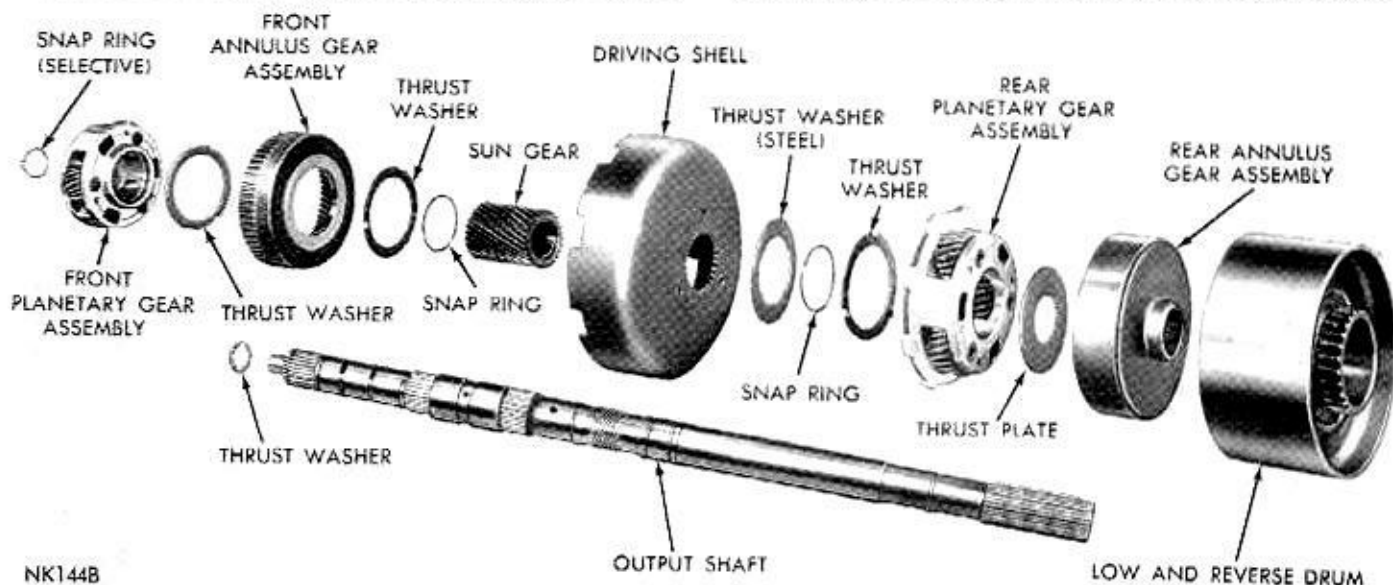

Fig. 72—Planetary Gear Train and Output Shaft Disassembled (A-727)
output shaft (Fig. 72).
(2) Remove selective snap ring from forward end of output shaft, then slide front planetary assembly off the shaft.
(3) Slide front annulus gear off planetary gear set (Fig. 72). Remove thrust washer from rear side of planetary gear set.
(4) Slide sun gear, driving shell and rear planetary assembly off output shaft.
(5) Lift sun gear and driving shell off rear planetary gear assembly. Remove thrust washer from inside the driving shell. Remove snap ring and steel washer from sun gear (rear side of driving shell) and slide sun gear out of the shell. Remove front snap ring from sun gear if necessary. Note that front end of sun gear is longer than rear.
(6) Remove thrust washer from forward side of rear planetary gear assembly, remove planetary gear set and thrust plate from rear annulus gear.
Refer to Figure 72 for parts reference.